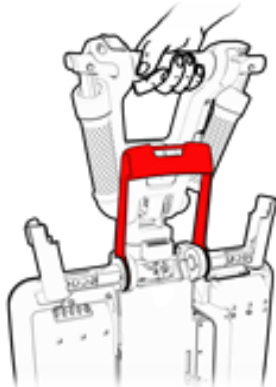

Figure 54
1. Make sure the handlebar is secured in an upright position (see Figure 54).